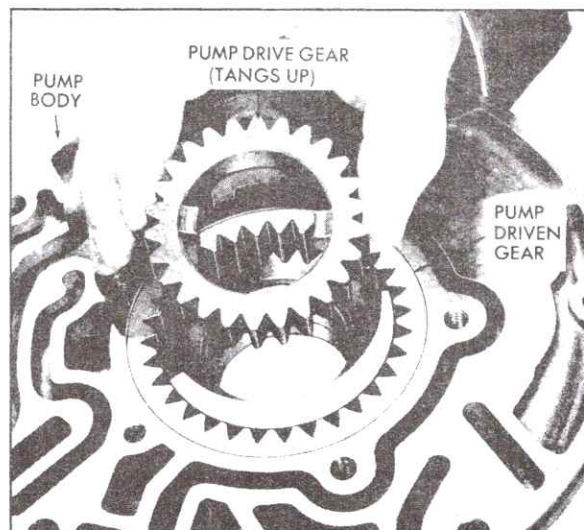

Fig. 7-56 Removing Pump Gears
8. Remove drive and driven gears from pump body, Fig. 7-56.